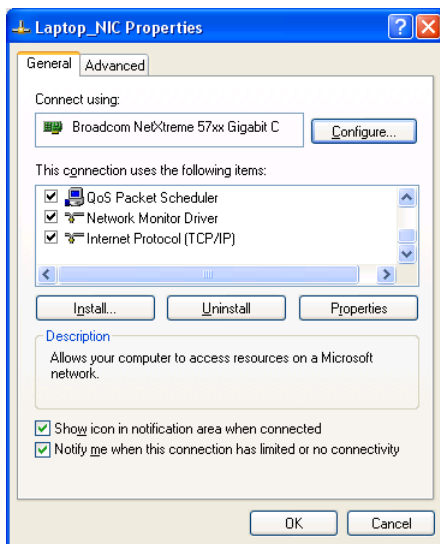

Fig. 2-30, Local Area Connection Properties Screen, Windows XP
6. You will see a dialog box much like Fig. 2-30; select **Internet Protocol (TCP/IP)** and then click the **Properties** button.